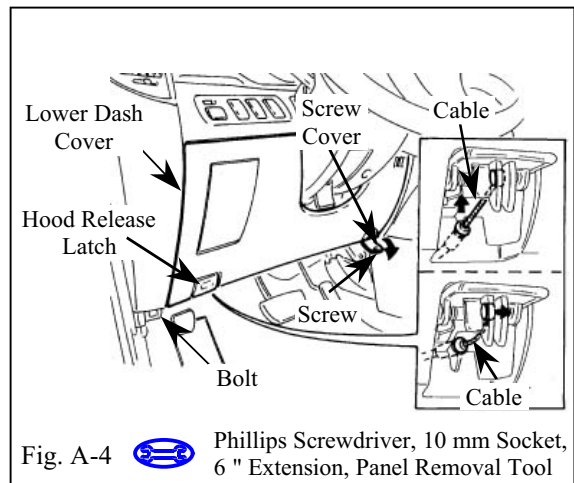

Fig. A-4
6. Remove the driver's lower dash cover. (Fig. A-4)